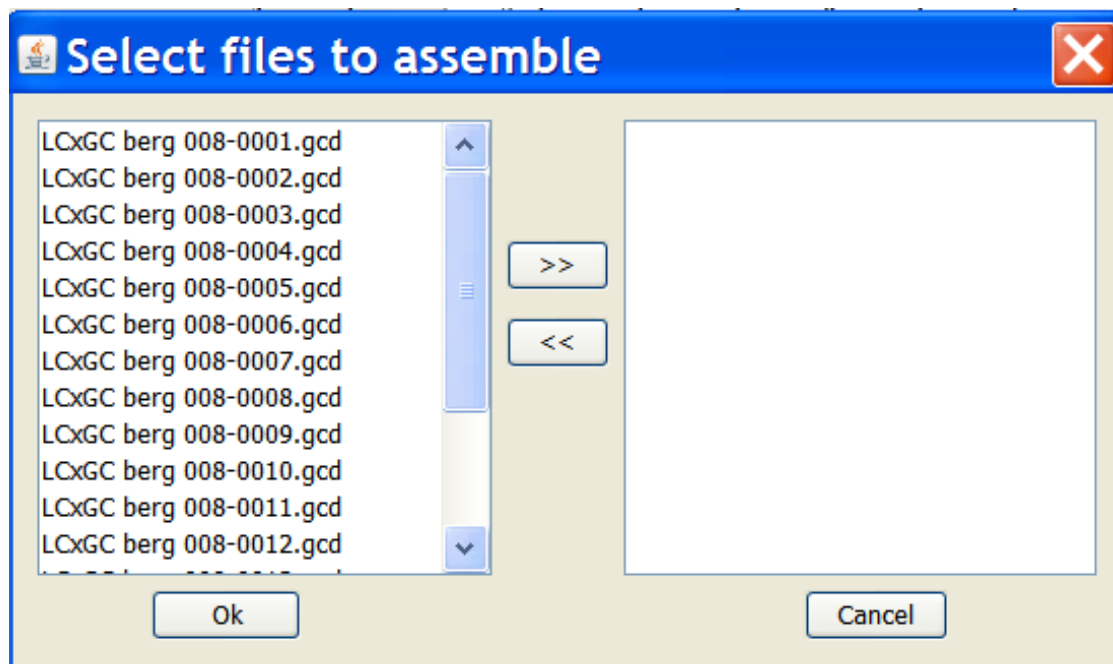

Figure 10.12: List of the files to assemble
3. A new window (**Select files to assemble**) with two panes will be shown. The *left* pane will contain the *list of all the files having similar names* and ending with different sequence numbers; the right pane will contain the files that the user wants to assemble. See Figure 10.12.